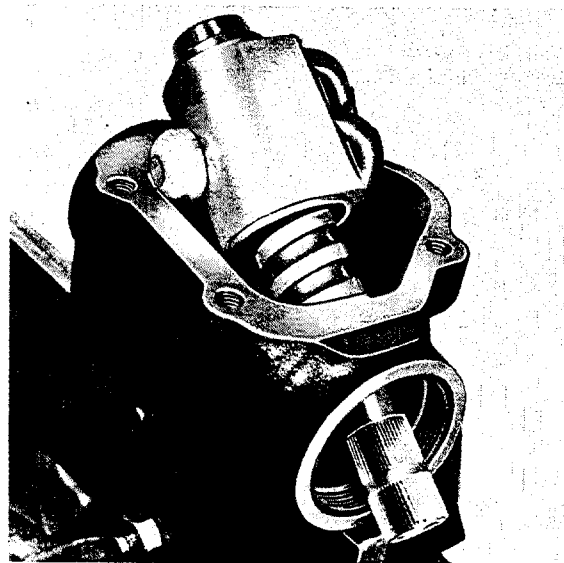

Fig. L 4/10
26. Smear sealing compound on the lower threads of the adjusting ring (2) and screw the adjusting ring into the housing; when doing this, press Guide Sleeve (1) 180 589 00 61 onto the steering worm (Fig. L 4/11).